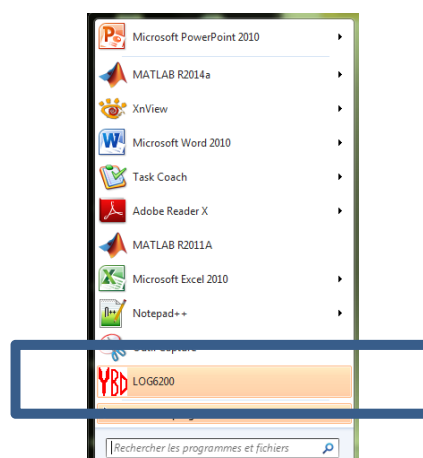

Figure 4. Launching LOG6200\_V25 software
3. Launch the LOG6200 software (*Start-Up menu => YBD LOG6200*, Figure 4).